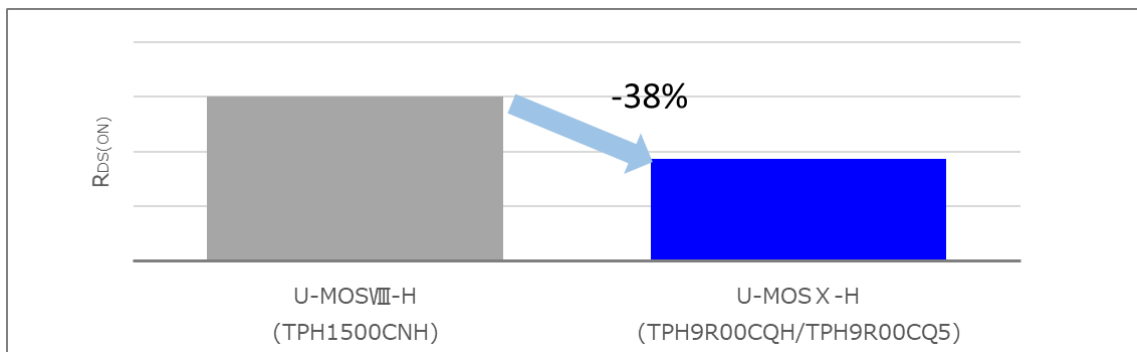
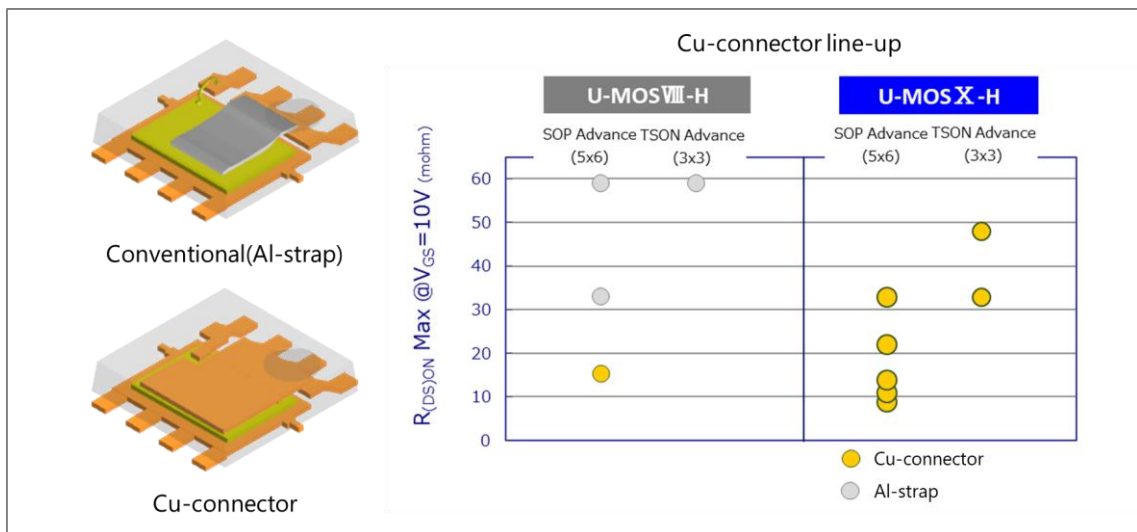

Figure 2.2.1.  $R_{DS(ON)}$  comparison by generation
Figure 2.2.2.  $R_{DS(ON)}$  comparison between Cu-connector and conventional structure
U-MOSX-H 150V has achieved an on-resistance reduction of 38% compared to conventional U-MOSVIII-H 150V by using a state-of-the-art trench gate design (Fig. 2.2.1). Besides this silicon process improvement, the package resistance also has been reduced by Cu-connector technology adopted on all of the line-up of SOP Advance (N) (5x6) and TSON Advance (3x3), which covers FET area widely on chip (Fig. 2.2.2).